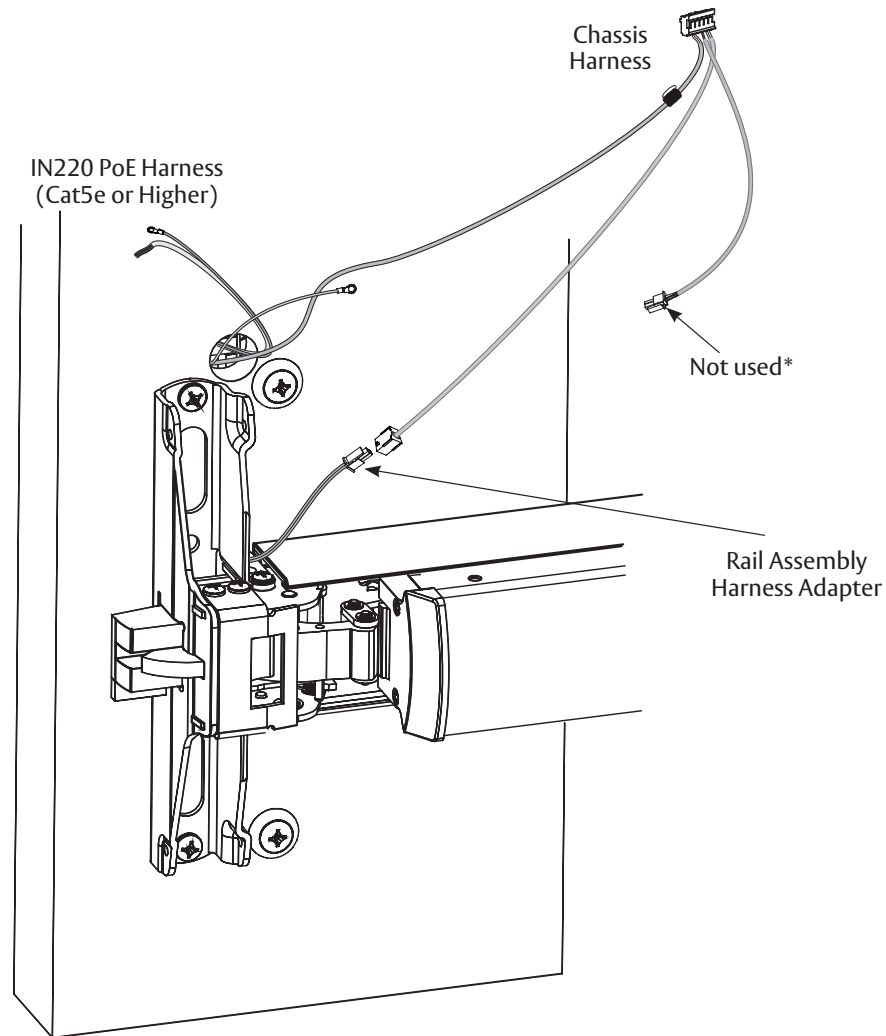

Figure 5-5
1. Connect motor harness adapter to chassis harness connector. (Figure 5-5)